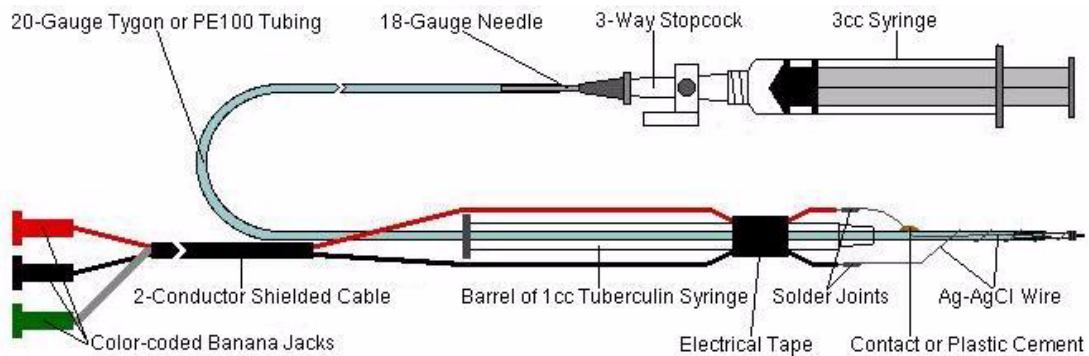

Figure 3-7: Typical suction electrode assembly.
- 1 Obtain the following items to make your own suction electrode (Figure 3-7 on page 13): a soldering iron; solder; a wire stripper; a wooden-handled dissecting pin; an alcohol burner; a can or tube of contact or plastic cement; a fine flat file; emery cloth; electrical tape; a popsicle stick; two pieces of chlorided silver wire (0.005" dia, 5" long); three feet of shielded, two-conductor, insulated cable; three color-coded connectors that will mate to the connectors on the input cable for the amplifier; three feet of flexible plastic tubing (20 gauge Tygon or PE 100); an 18-gauge needle, a 3-way stop cock, a 3cc syringe, a 1cc tuberculin syringe; glass micropipette tip.